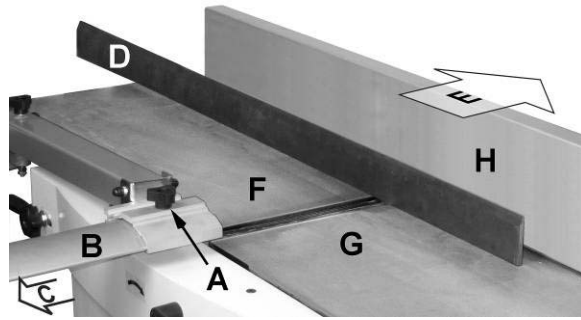

Figure 8
Referring to Figures 8 and 9:
2. Remove the *cutterhead guard* (B, Fig. 8).